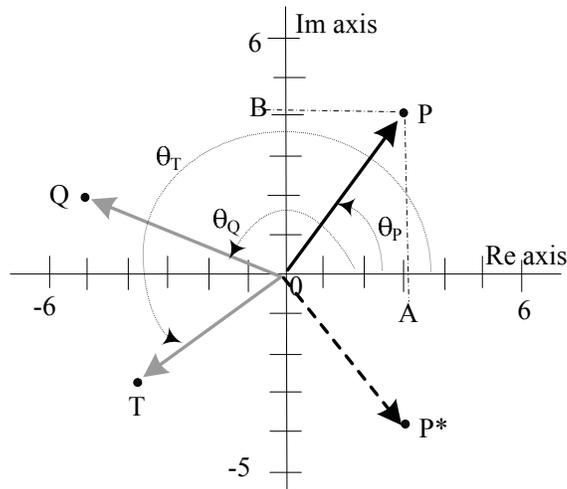

Figure C1
the solution is the square-root of a negative number, which is not defined in the system of real numbers. This situation is dealt with by introducing ‘imaginary numbers’ jN , where j is defined as $j = \sqrt{-1}$ and N is a real number. Thus, for example, a square-root such as $\sqrt{-36}$ can be expressed as the imaginary number $j6$. A complex number is defined by the quantity $(A + jB)$, where A and B are real numbers (positive or negative). The number $(A+jB)$ can be plotted as a point P in the *complex plane*, whose abscissa is the set of positive and negative real numbers (A) and whose ordinate is the set of of *imaginary* numbers (jB), as shown in Figure C1. If $P = A+jB$, then $P^* = A-jB$ is called the *complex-conjugate* of P